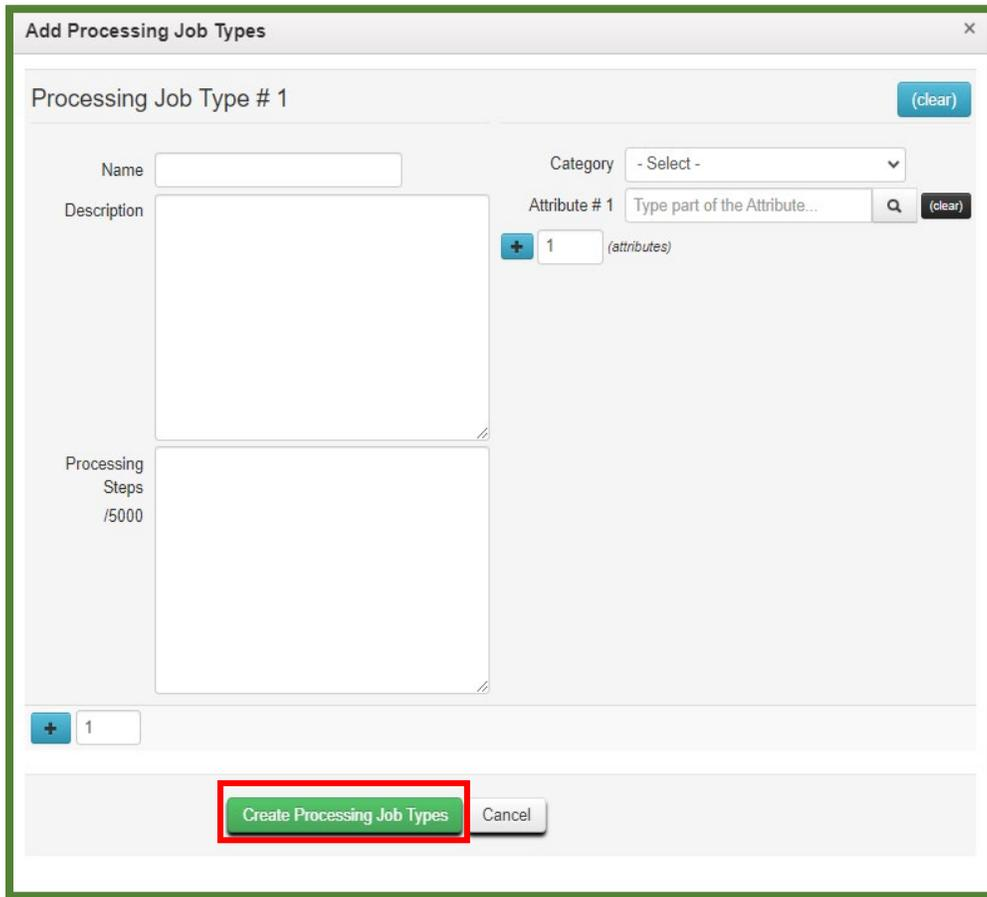

Figure 3: Add Processing Job Types action window
- e. Attribute #1 is used to add one or more Attributes that pertain to the Processing Job Type from the OCM-created options. Attributes can be added by typing in the attributes needed into the attribute field or by selecting the magnifying glass icon and choosing the appropriate option from the group of attributes. To add additional attributes, select the blue plus icon button – **see Figure 3**.